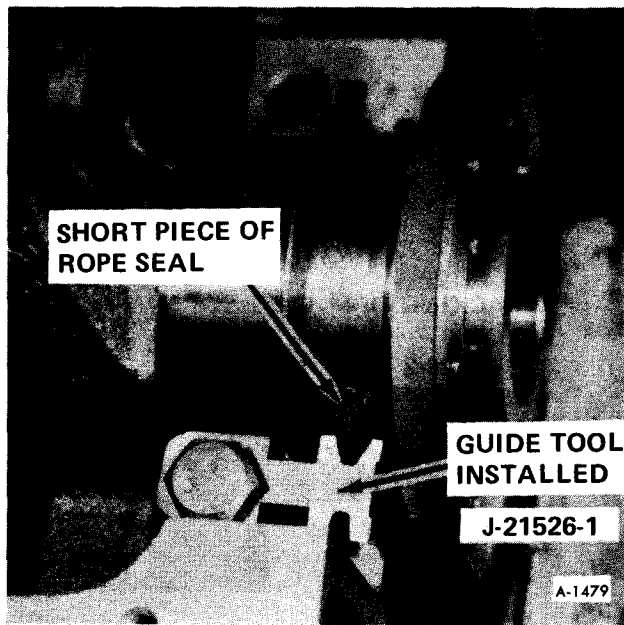
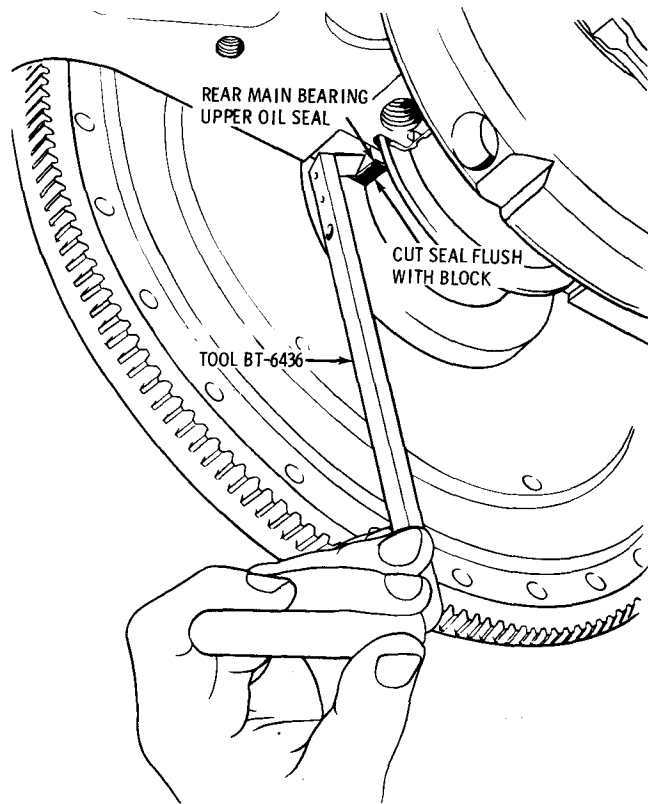
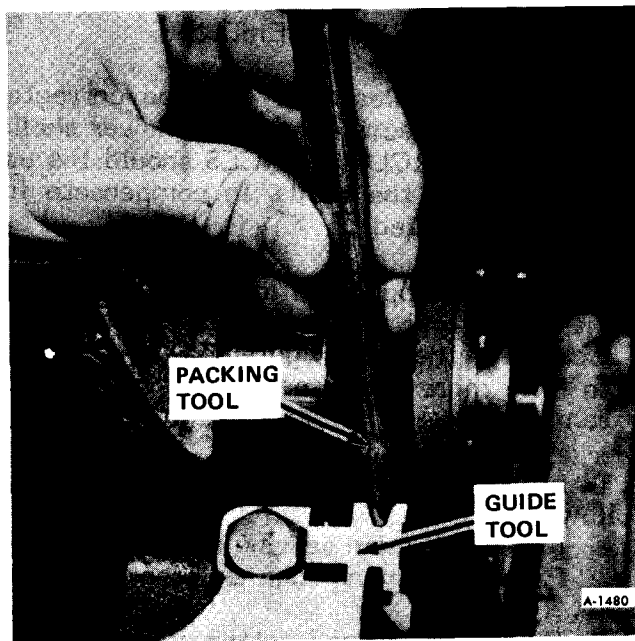

Figure 83—Guide Tool Installed
Figure 85—Cutting Off Upper Seal Ends
Figure 86—Packing Seal into Guide and Cylinder Block
6. Work these two pieces of seal into the cylinder block (one piece on each side) with two small screwdrivers. Use guide tool J-21526-1 as shown in figure 83. Using packing tool, pack these short pieces up into the block. Use a seal trimming tool to trim seal flush with block as shown in figure 85. Refer also to figure 86.